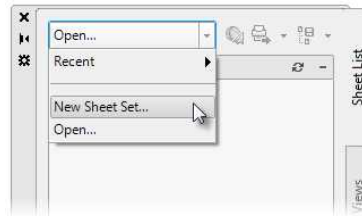

FIGURE 14.31: Creating a sheet set by using the Sheet List palette
2. With the Sheet Set Manager palette set open, select the drop-down list on the Sheet List palette and select New Sheet Set, as shown in Figure 14.31.